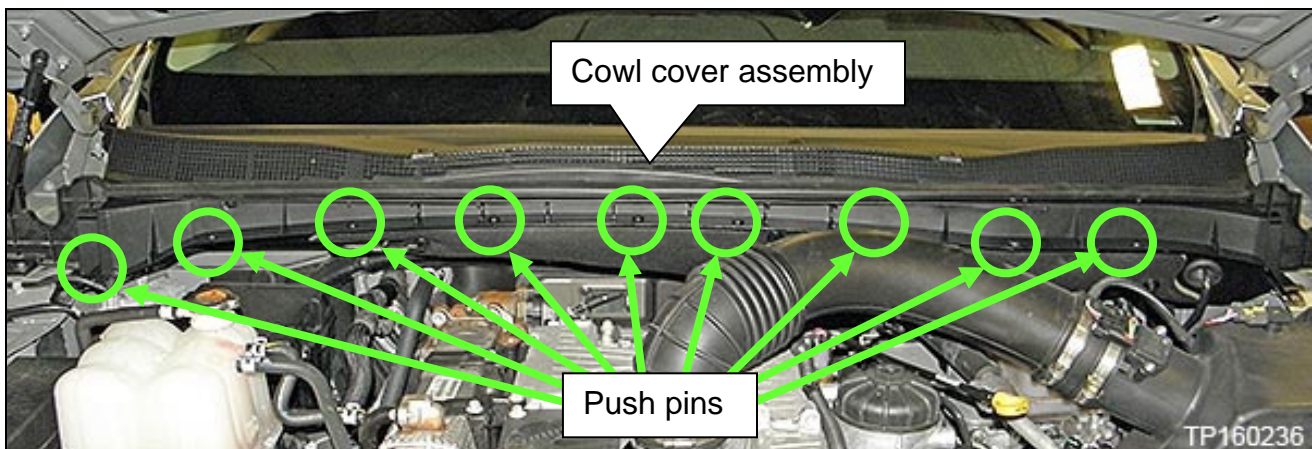

Figure 15
- Install the nine (9) push pins (Figure 15).